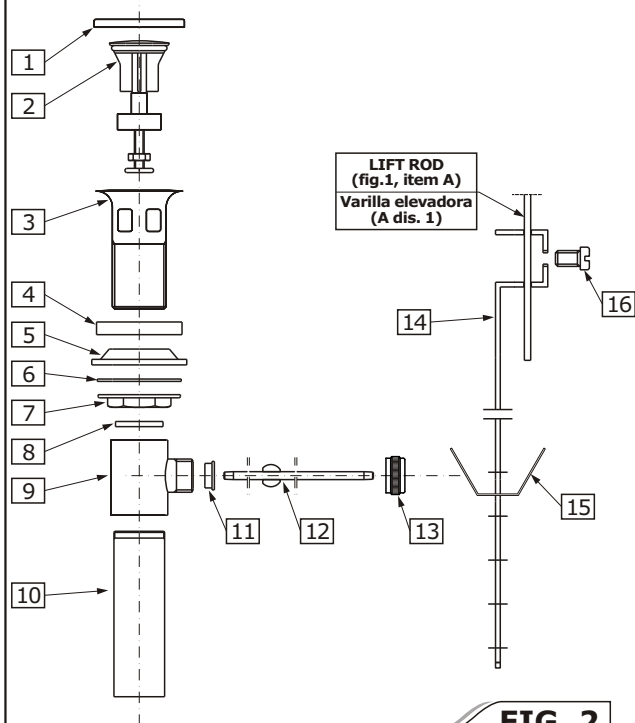

FIG. 2
- ➔ Dismantle the drain assembly to the parts shown on **fig. 2**.